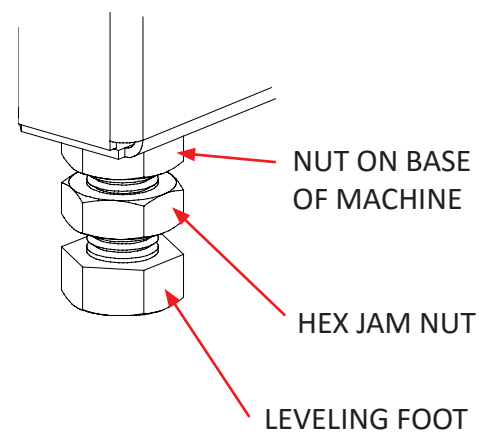

FIG. 8
2. The grinder's four leveling feet (FIG. 8) are seated in countersunk holes in the pallet. Use a fork lift or other power equipment to raise the grinder from the wood base and set it in its final position. Lift under the bottom tray. The forks must reach to the rear of the machine and extend past or the grinder may be damaged while lifting.